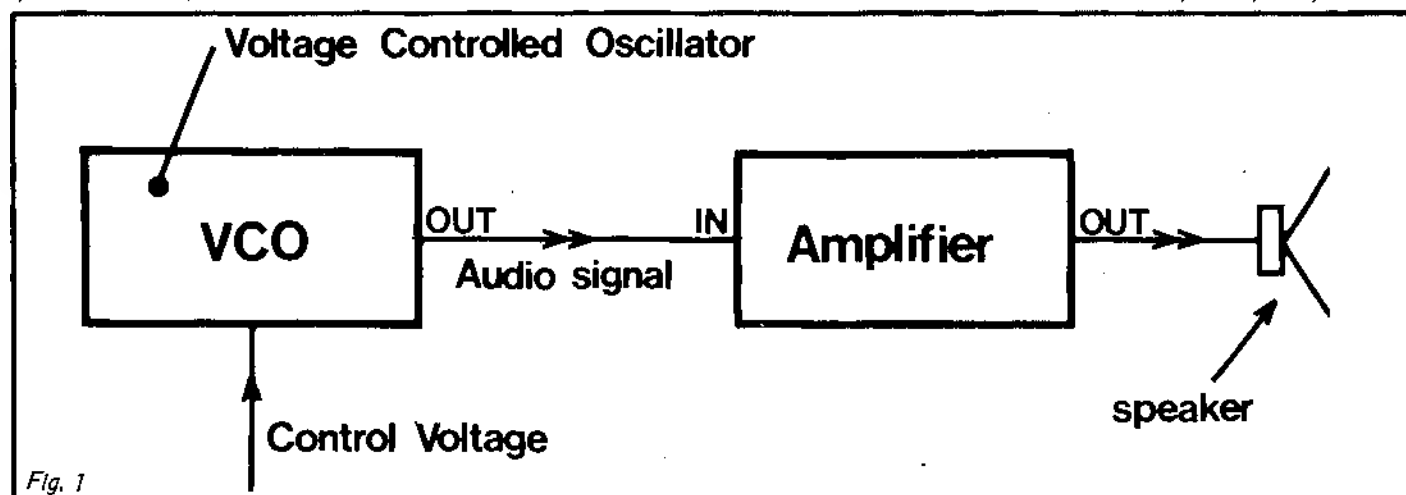

Fig. 1
If you fed the output of an audio-oscillator directly into an amplifier and loudspeaker (see Fig.1; ignore the "control voltage" for the moment), you would be able to describe three different characteristics of the continuous sound you heard; its *pitch*, *loudness* and *tone*
is an *input* to the oscillator (see Fig.1); this voltage is called a *control voltage* (CV). In the same way that the steam pressure in a whistling kettle determines the pitch of the whistle, so the control voltage determines the pitch or frequency of a *voltage-controlled oscillator* (VCO). It is becoming increasingly common for oscillators to be designed so that a 1 volt change in control voltage produces a change in pitch of one octave. If, for example, a control voltage of 2 volts produces middle C (262Hz), when the control voltage is raised to 3 volts the oscillator pitch will rise to the C one octave higher (new frequency = $2 \times 262\text{Hz} = 524\text{Hz}$). If the control voltage is increased by one more volt to 4 volts, the pitch will rise another octave to the C two octaves above middle C (new frequency = $4 \times 262\text{Hz} = 1048\text{Hz}$).